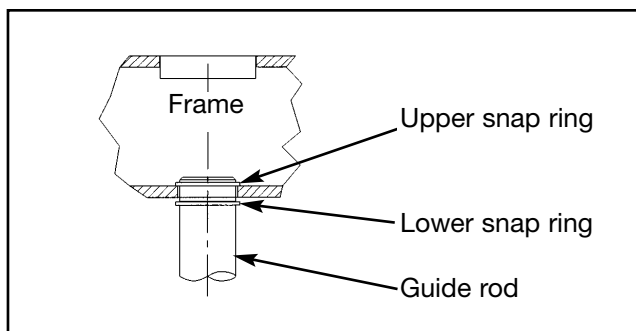

Figure 2
F. Remove all three braces as shown in Figure 2. Set aside braces and hardware. The braces will be re-installed at the end of the assembly procedure.
**C.** Using an external snap ring pliers, slide the lower snap ring down about two inches from the top part of the guide rod (this will provide access to the upper ring). See Figure 2.